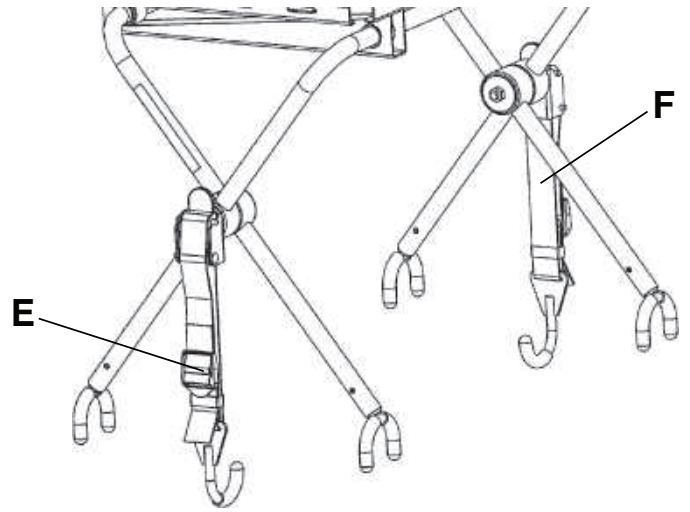

Figure 41 – Attach defibrillator platform to the cot
9. Secure the straps (E) to hold the defibrillator on the defibrillator platform (Figure 41).